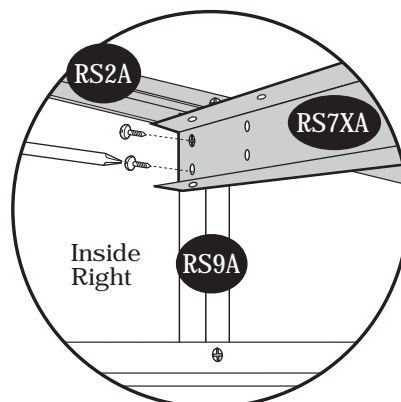

fig.2
Detach 90-degree joint (RJ) from corner column fitting (FCC) from both corners. See fig.2.